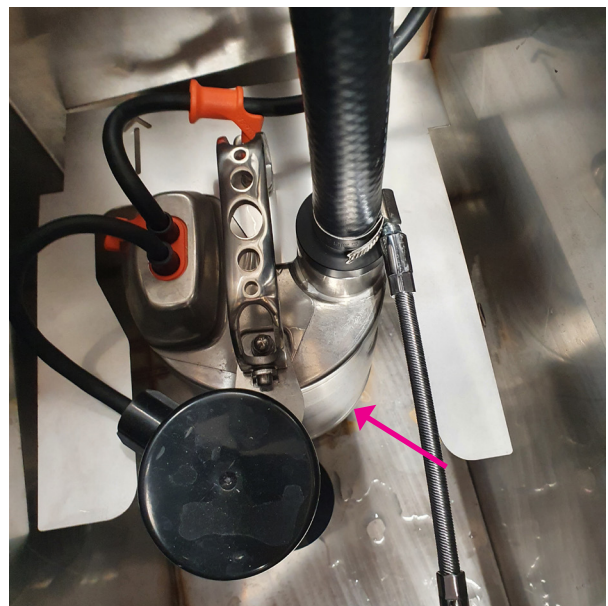

Figure 25
4. Remove the submersible pump from the tank (Fig. 25).